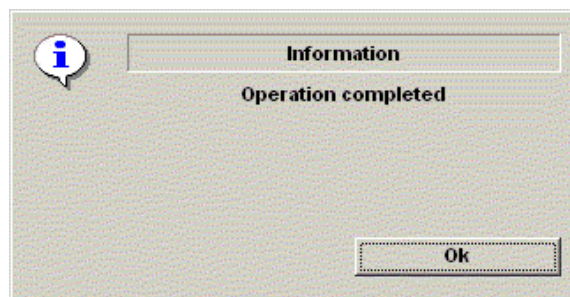

Figure 4-39 Archive Operation Complete Message
- 9.) Press OK. An in-progress message appears. The archive operation is complete when you receive the message shown in Figure 4-39.